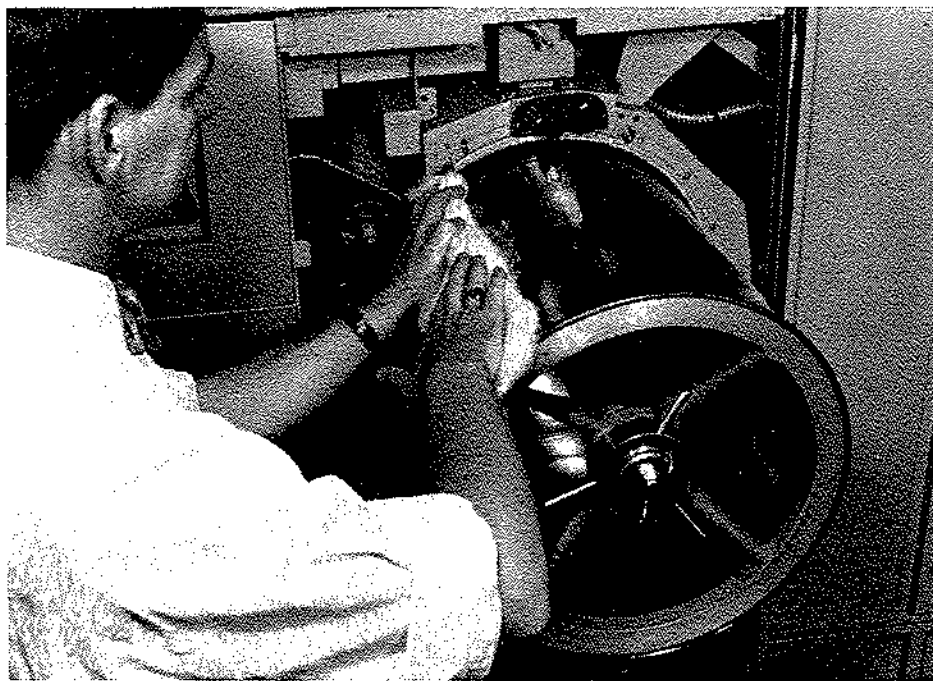

Figure 31. Drum Cleaning
4. Seat the drum back against the setscrew so that the screw engages the slot in the drum arbor, then reinstall the wing nut and washer to secure the drum on the extension shaft (see figure 31).
8. Thoroughly dampen the absorbent with the Film Remover provided for drum cleaning (see Appendix A) and lay it against the rotating drum as shown in figure 31. The fold should be in the direction of drum rotation.